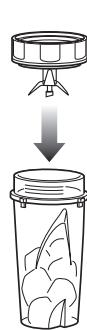

Fig. 9
- 4 Place the Nutri Ninja Blade Assembly onto the cup and tightly screw it on clockwise until you have a good seal. (**Fig. 9**)